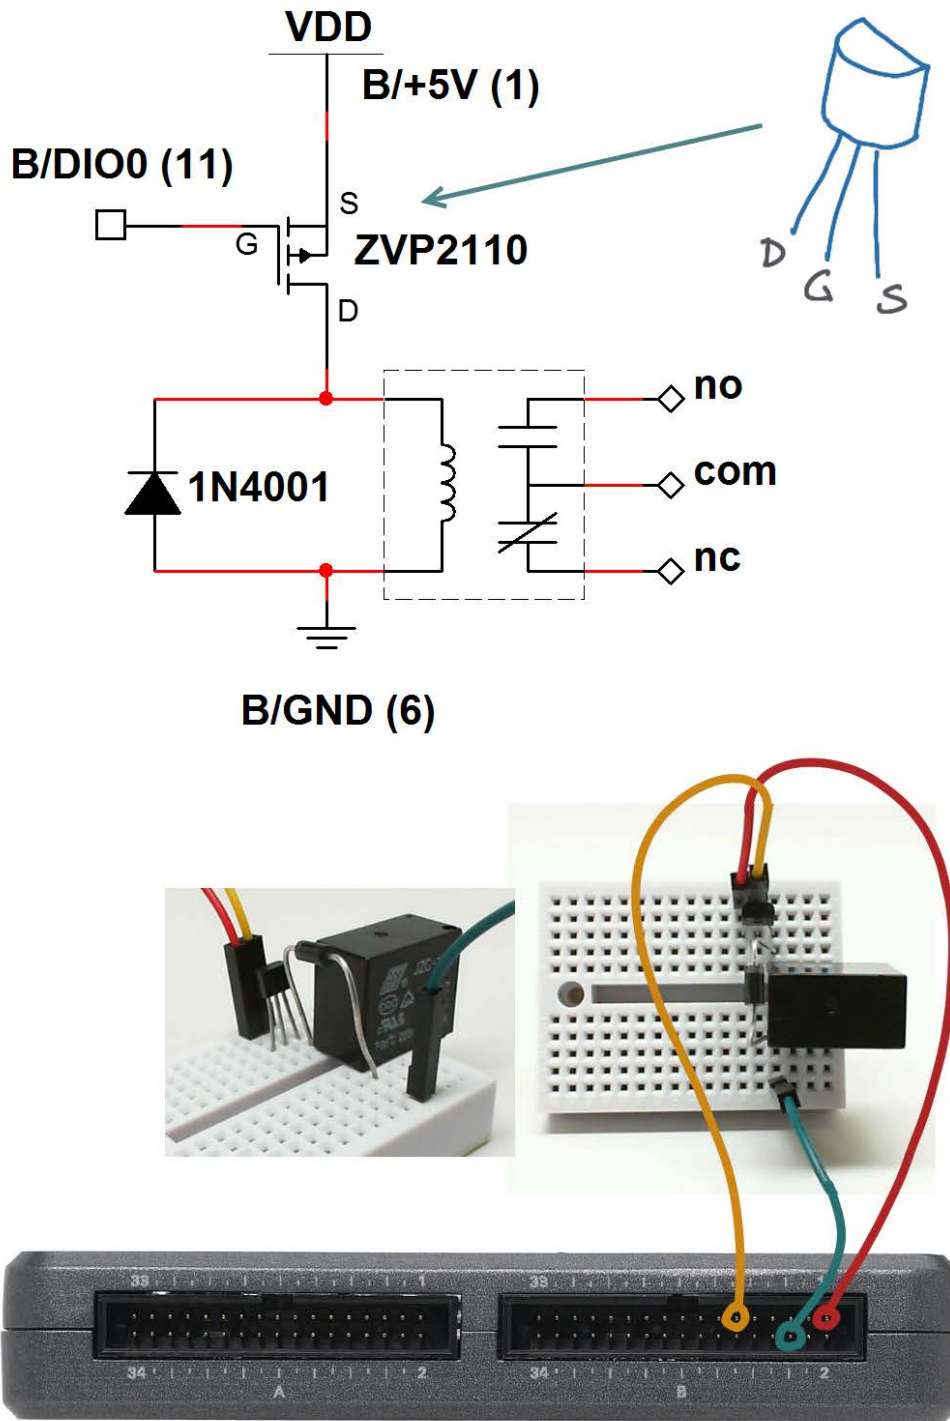

Figure 6.2: Demonstration circuit for relay: schematic diagram, recommended breadboard layout, and connection to NI myRIO MXP Connector B.
**Build the interface circuit:** Refer to the schematic diagram and recommended breadboard layout shown in Figure 6.2 on page 23. Note that the three relay switch contacts do not sit on tenth-inch centers,
2. Blink two LEDs to simulate a railroad crossing signal; use the three relay contacts “normally open” (NO), “normally closed” (NC), and “common” (COM) as shown in Figure 6.2 on the previous page.